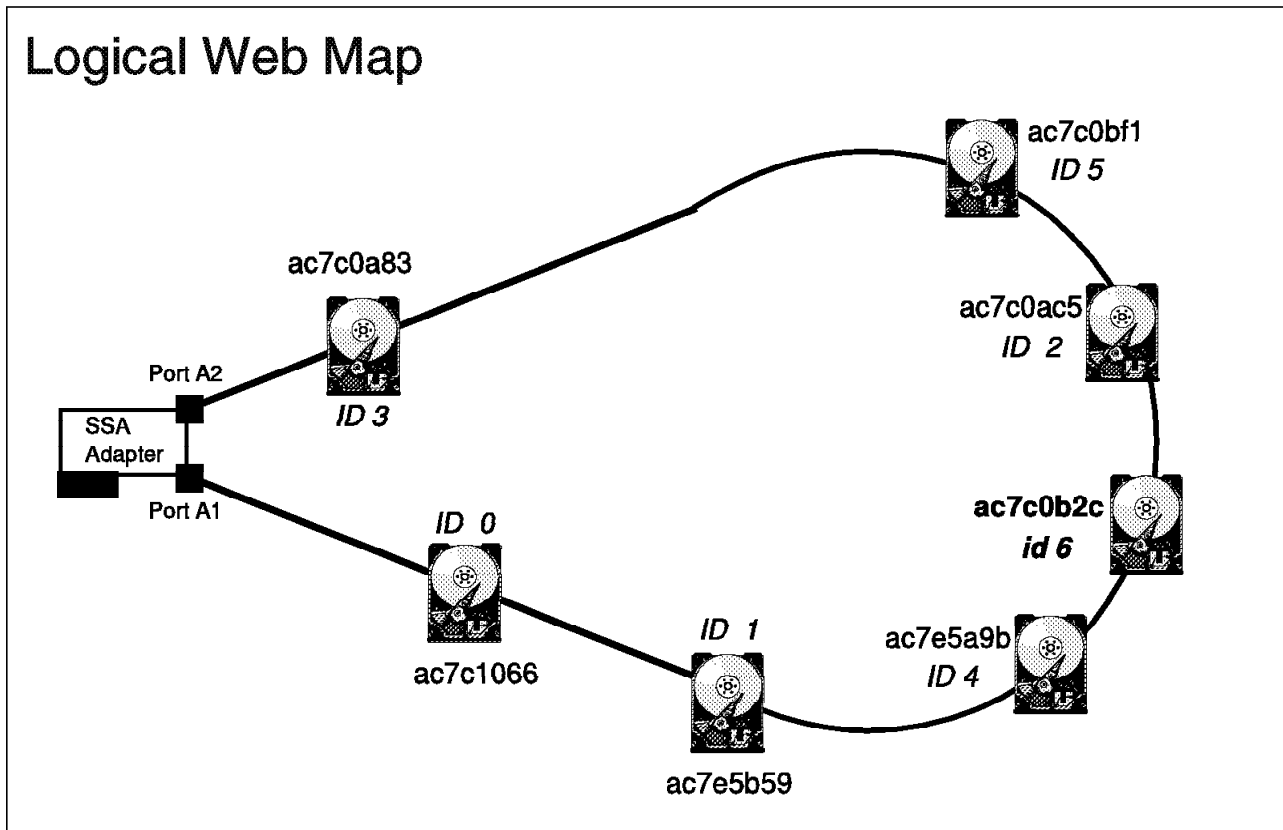

Figure 116. The Newly Added Drive in the SSA Adapter Loop
- g. Figure 116 represents the procedure result.
- h. Display the configuration map and compare it with Figure 116: